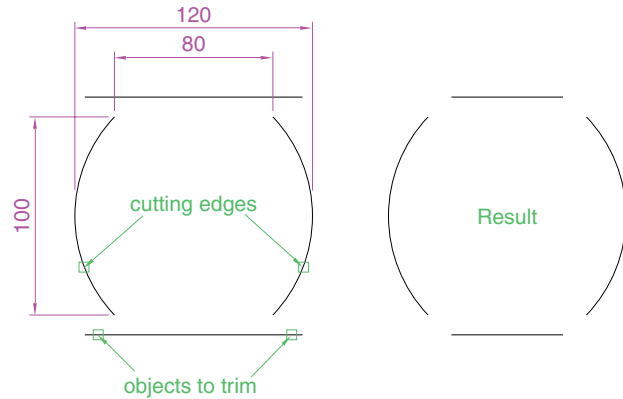

Fig. 5.32 Second example – Trim
Second example – Trim (Fig. 5.32)
1. Construct the left-hand drawing of Fig. 5.32.
- Repeat for the other required trims. The result is given in Fig. 5.32.